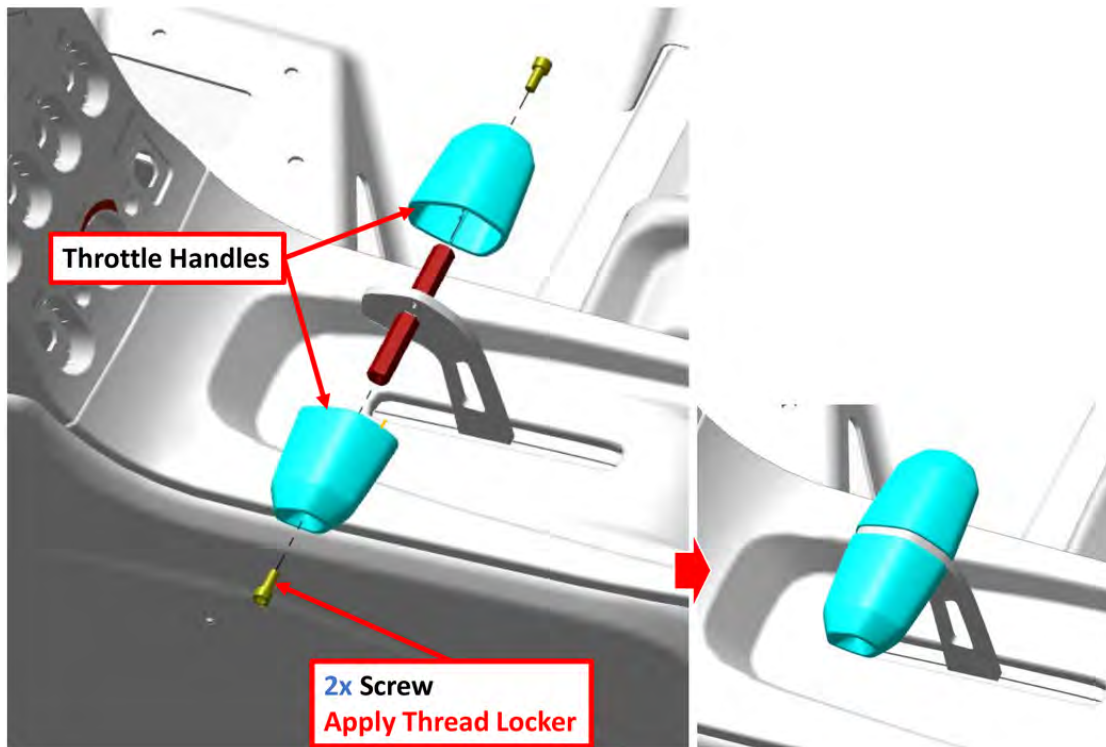

FIGURE 9-7
2. Remove 2X Screws which secure the handle grips using a 9/64 hex wrench. Separate the two halves of the handle to remove it from the throttle lever. Retain all fastening hardware and handle components. See Figure 9-7.
4. Insert left and right throttle handles. Install 2X Screws which secure throttle handles. Apply LOCTITE® 243™ and torque to 7-9 in-lbs. See Figure 9-7.